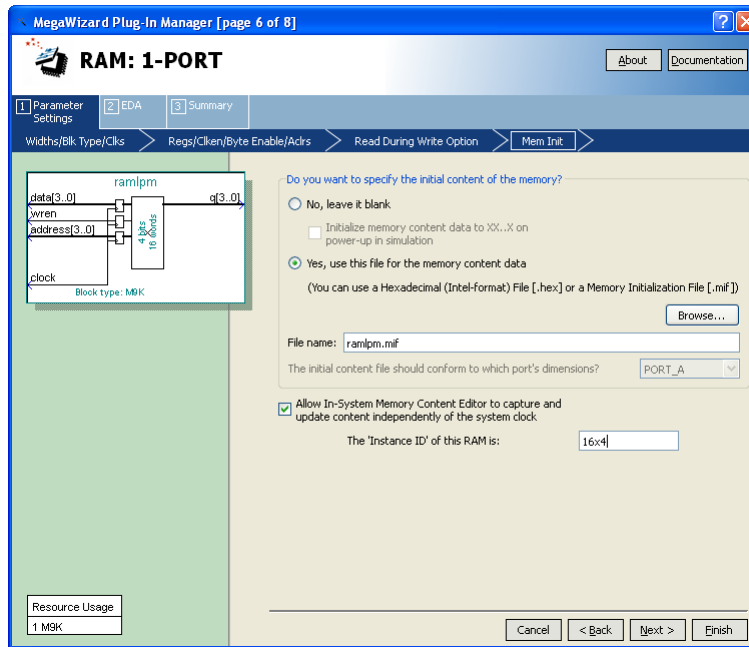
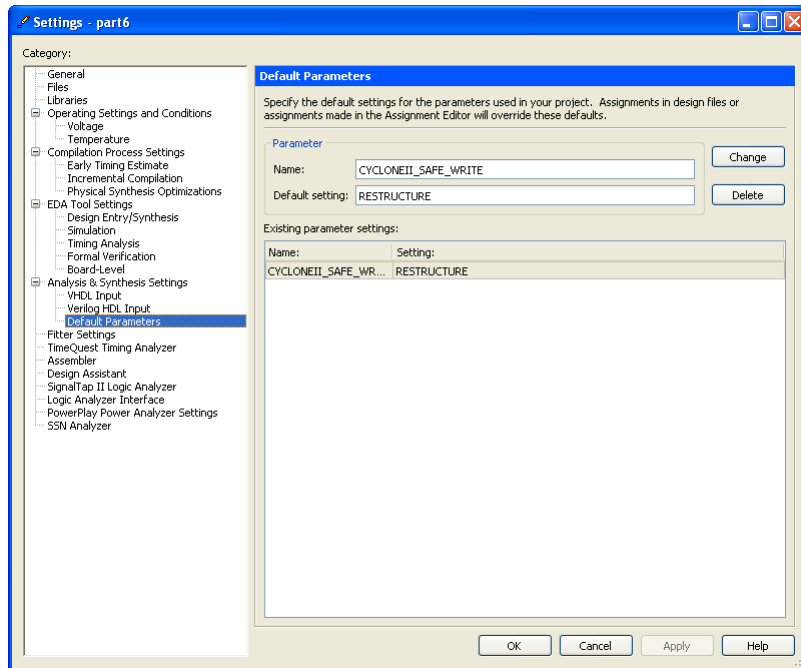

Figure 6: Configuring *RAM: 1-PORT* for use with the In-System Memory Content Editor.
Figure 7: Setting the *CYCLONEII_SAFE_WRITE* parameter.
1. Create a new Quartus II project for your circuit, and use the MegaWizard Plug-in Manager to again create a *RAM: 1-PORT* LPM. For Pages 3 to 5 of the Wizard use the same settings as in Part I. On Page 6, shown in Figure 6, specify the *ramlpm.mif* file as you did in Part V, but also make the setting *Allow In-System Memory Content Editor* to capture and update content independently of the system clock. This option allows you to use a feature of the Quartus II CAD system called the In-System Memory Content Editor to view and manipulate the contents of the created RAM module. When using this tool you can optionally specify a four-character 'Instance ID' that serves as a name for the memory; in Figure 7 we gave the RAM module the name 32x8. Complete the final steps in the Wizard.
3. Before you can use the In-System Memory Content Editor tool, one additional setting has to be made. In the Quartus II software select **Assignments > Settings** to open the window in Figure 7, and then open the item called **Default Parameters** under **Analysis and Synthesis Settings**. As shown in the figure, type the parameter name **CYCLONEII_SAFE_WRITE** and assign the value **RESTRICTURE**. This parameter allows the Quartus II synthesis tools to modify the single-port RAM as needed to allow reading and writing of the memory by the In-System Memory Content Editor tool. Click **OK** to exit from the Settings window.